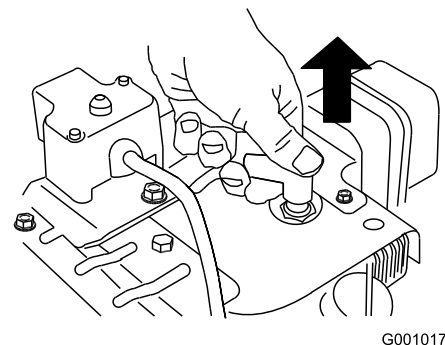

Figure 36
3. Disconnect the spark plug wire (Figure 36).